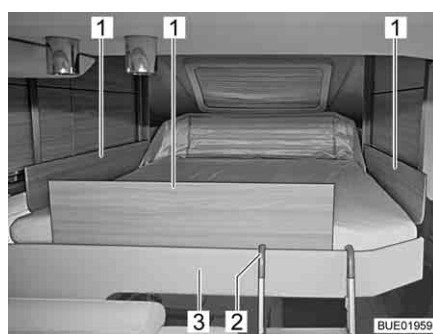

Fig. 122 Pull-down bed with safety plates
- Insert the safety plates (Fig. 122,1) between the mattress and the bed surround (Fig. 122,3).
- Hook both bows of the access ladder (Fig. 122,2) into the bed surround (Fig. 122,3).
- Release the access ladder (Fig. 122,2) from the bed surround (Fig. 122,3).